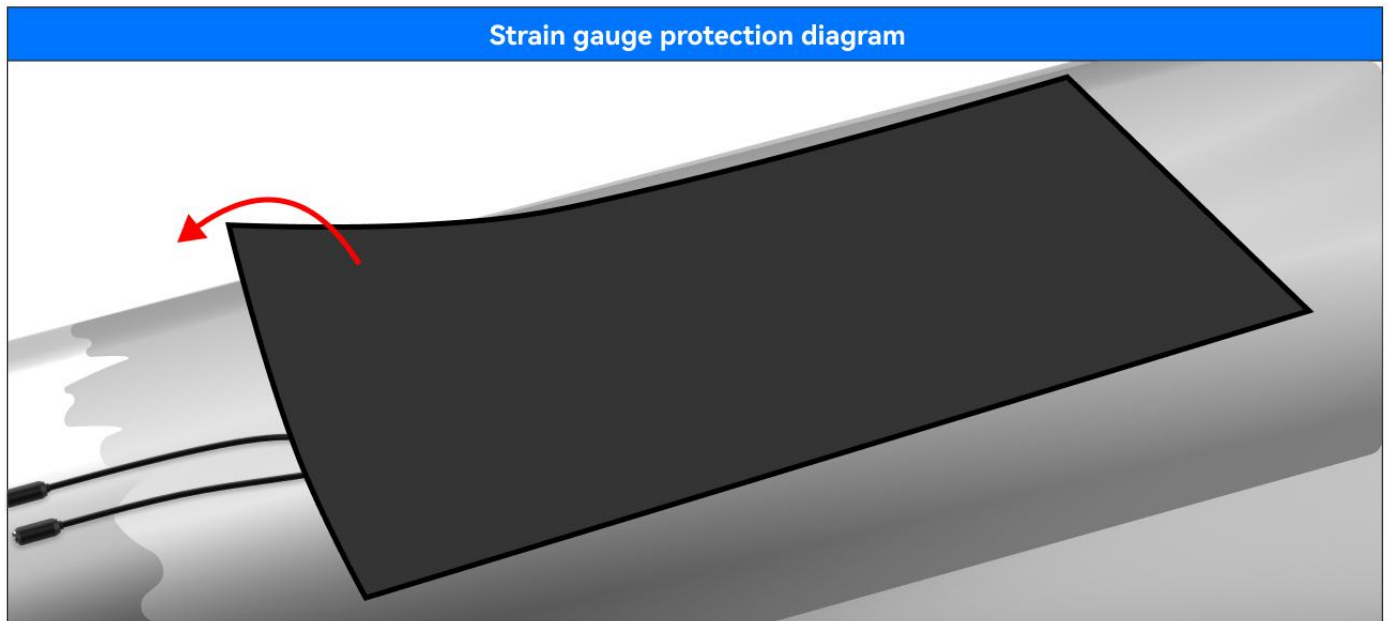

Figure 3.25
6. Cut a protective layer of about 50 x 100mm. It should be large enough to cover the foil area and stick to the clean shaft area. Carefully press the cement firmly onto the strain gauge cable but leave it exposed, as shown in Figure 3.25.